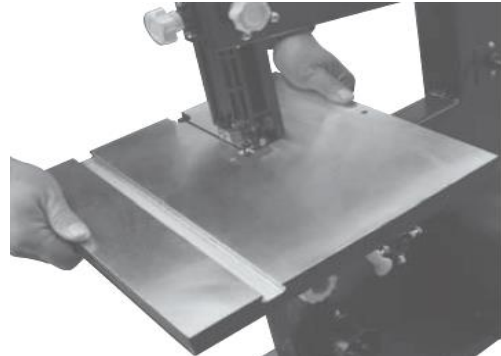

Fig 6
- Slide the table over the blade, through the slot in the table. (Fig 6)